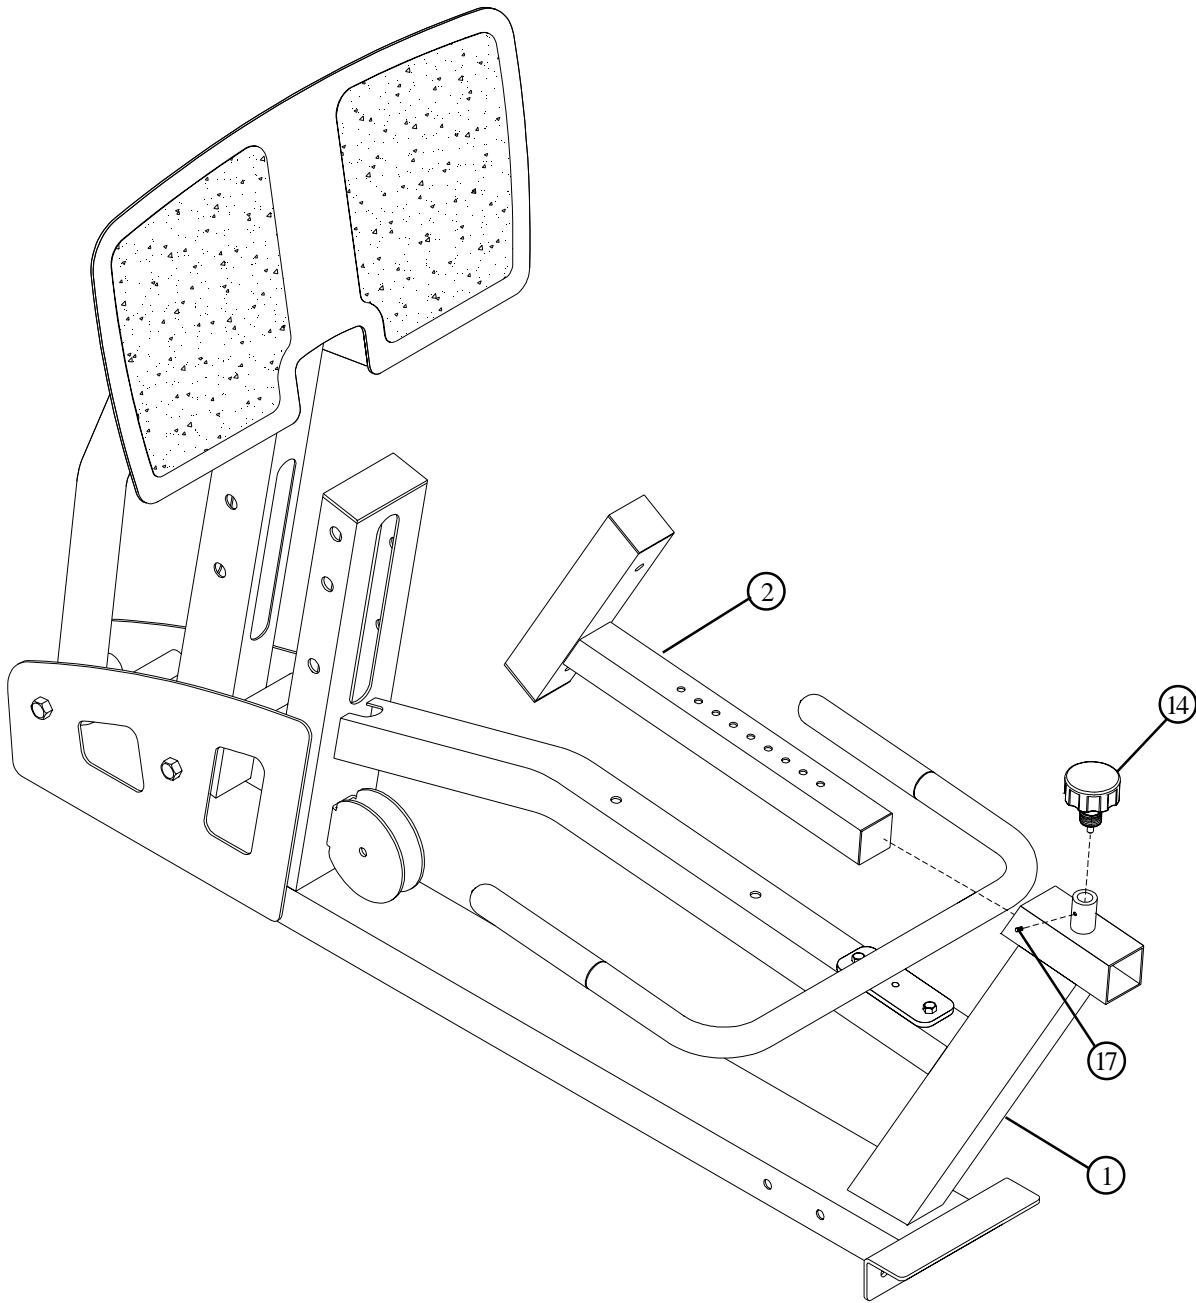

**FIGURE 5**
- SECURELY assemble the HANDLE (3) to the FRAME (1) using two 3/8 X 3" BOLTS (9), four 3/8" FLAT WASHERS (10) and two 3/8" LOCK NUTS (11) as shown in FIGURE 5.